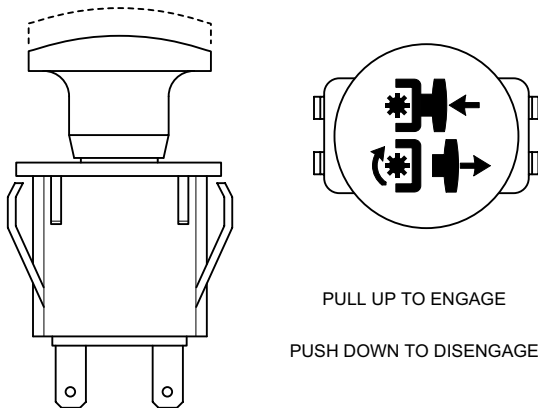

Figure 4-6. Cutter Engage Switch
3. Insert the lanyard pin into the cutting height index at the desired cutting height. Push forward on the deck lift foot lever, hold in place and pull back on the deck release lever. See Figure 4-6. Slowly release the foot pedal. A deck height decal is located on the cutting height index as an aid in adjusting the deck to the desired height. See Figure 4-5.